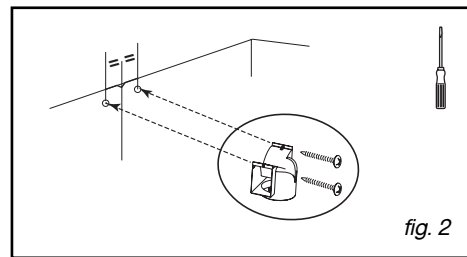

fig. 2
- Using the two screws (fig. 2), attach the plastic smoke deflector against the wall, flush with the ceiling. Be careful to centre the deflector in relation to the vertical line drawn on the wall (fig. 2).